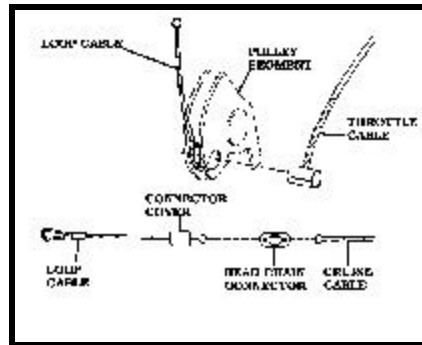

Figure 9
3. Hold the **LOOP CABLE** between the holes in each side of the pulley. Slide the barrel at the end of the throttle cable through the slotted hole, then through the **LOOP CABLE** and into the second hole. **Figure 9**